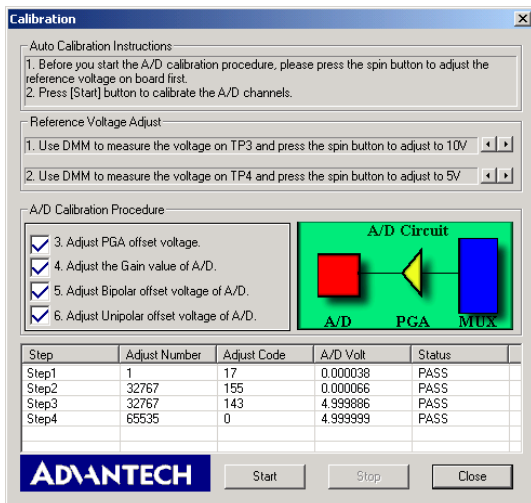

Figure 2.8: A/D Auto-Calibration is finished.
Step 5: Auto-calibration is finished (Figure 2.8)